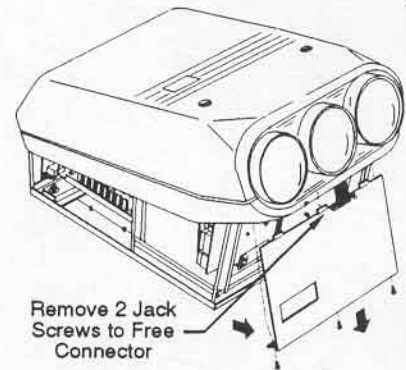

Figure 5-6. Front Panel Removal
- c) Remove the 3 hex head screws which secure the front panel to the projector frame as shown in Figure 5-6. Pull the front panel down a few inches then disconnect the ACON connector at the top of the panel by removing the two securing jack screws.